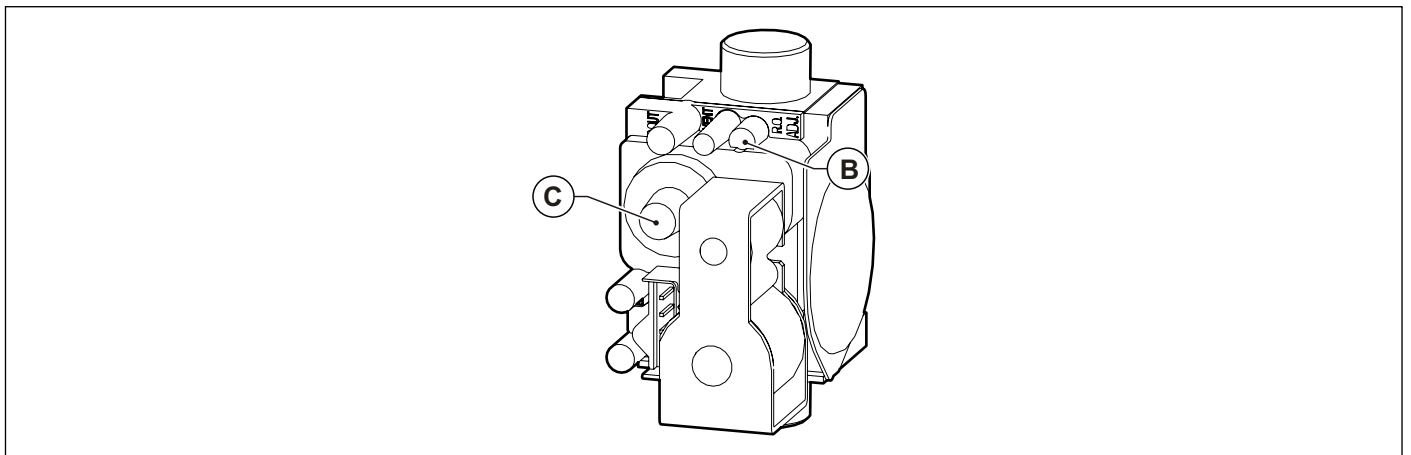

Fig. 34 Adjusting CO₂ value
- Set flue gas CO₂ content by turning the ratio adjuster **B** (see Fig. 34 Adjusting CO₂ value) and ensure that reading falls within the limits of Tab. 19 Flue CO₂ content. Let boiler flue cleaning function on and continue with the next point "Minimum heating output adjustment".
- Set flue gas CO₂ content by turning the offset control **C** (see Fig. 34 Adjusting CO₂ value) and ensure that reading falls within the limits of Tab. 19 Flue CO₂ content.